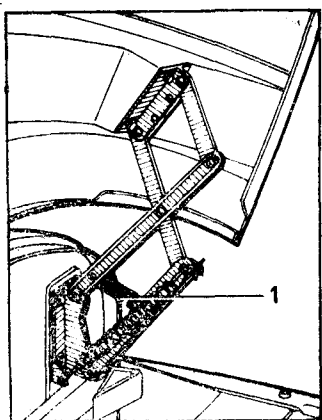

Fig. 5. Hood Lifting Mechanism Lock
4. When servicing the diesel engine lock the hood lifting mechanism applying hook 1 (Fig. 5).